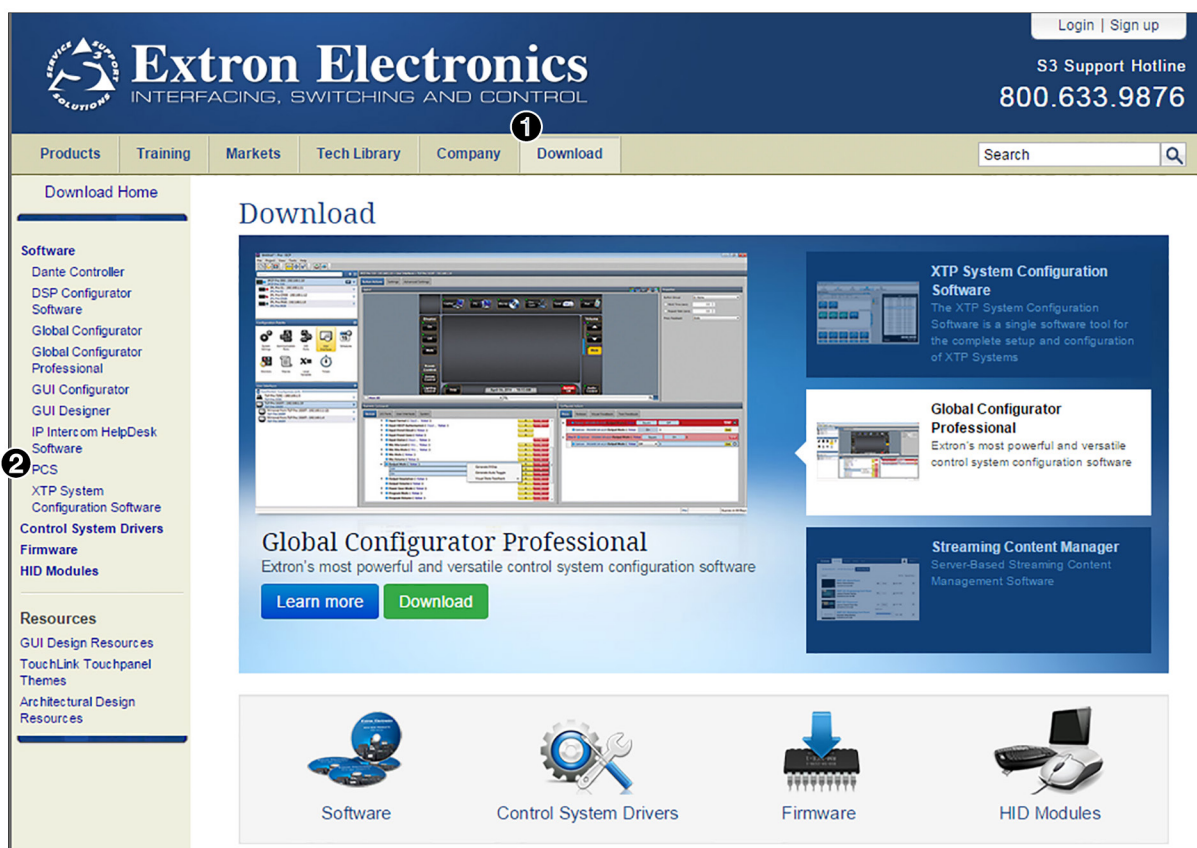

Figure 17. Software Links on the Download Page of the Extron Website
1. Open the Extron web page and select the **Download** tab (see figure 17, **1**).